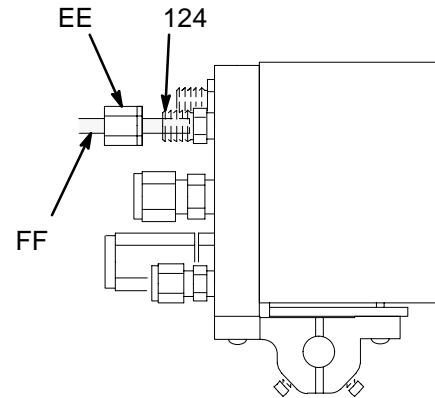

Fig. 9
2. Remove the nut (EE) from the fiber optic fitting (124), and slide the nut over the end of the fiber optic cable (FF). See Fig. 9.
3. Insert the cable (FF) into the fitting (124), and push the cable in until it bottoms out. Tighten the nut (EE) to secure the cable.